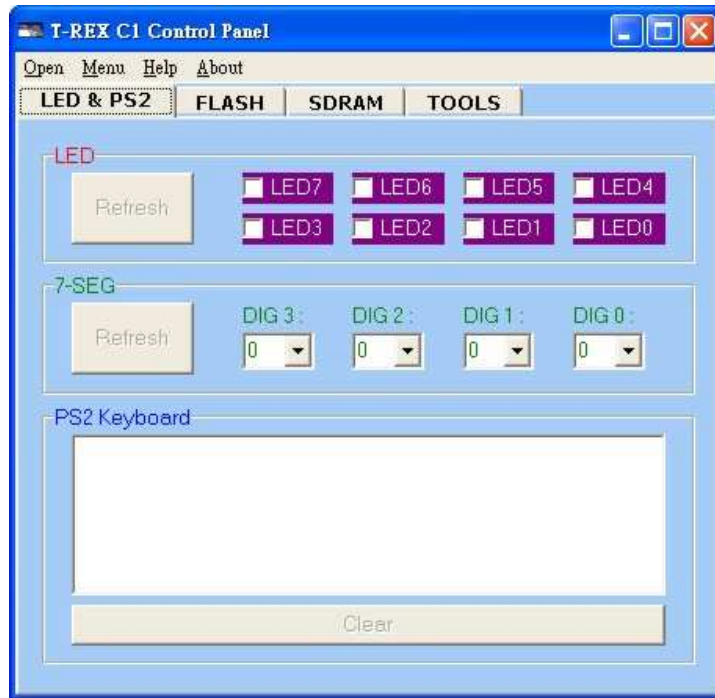

Figure 6.2. TREX Control Panel
3. Start the `TREX_C1_Control_Panel` program located in your `C:\Terasic`. The user interface shown in Figure 6.2 should appear.